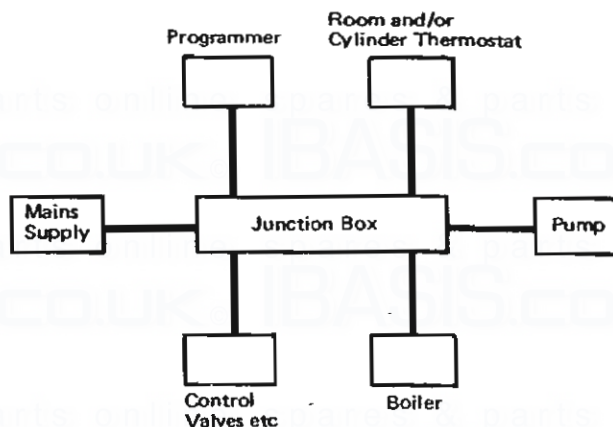

Fig. 8 PRINCIPLE OF WIRING
5. WIRING — See fig. 8 to 13
Care must be taken to ensure that all wiring to the boiler is kept clear of sharp edges and hot surfaces. Unscrew the two (CF125 and 150) or one (CF180 and 220) screws and remove the front of the control box, thus exposing the mains terminal connections. The boiler terminals are not designed to accept wiring from all the on-site system controls and therefore, the installer will need to incorporate a suitable junction box. The principle of wiring up the boiler and its controls is shown in Figure 8. However, the layout of a particular system will itself govern the most economical location for the junction box and its terminals. Wire up the boiler and system controls using Fig. 11, 12 or 13 or as a guide, depending on the type of system installed. The wiring arrangements shown, outline only the basic control requirements and will therefore require on-site interpretation of the various boiler installation requirements. Figure 12 illustrates a system with a zone valve which requires an electrical supply to motor it both to the open and closed positions. Zone valves which require an electrical supply to open them but not to close them, should be wired in a similar manner but ignoring the closed connection from the room thermostat. For this type of valve, a room thermostat with a single pole contact only should be used. Certain zone valves may require an additional connection to the auxiliary switch (shown dotted). This would apply to those valves which internally are not suitable for giving an open signal from the normal opening voltage supply.